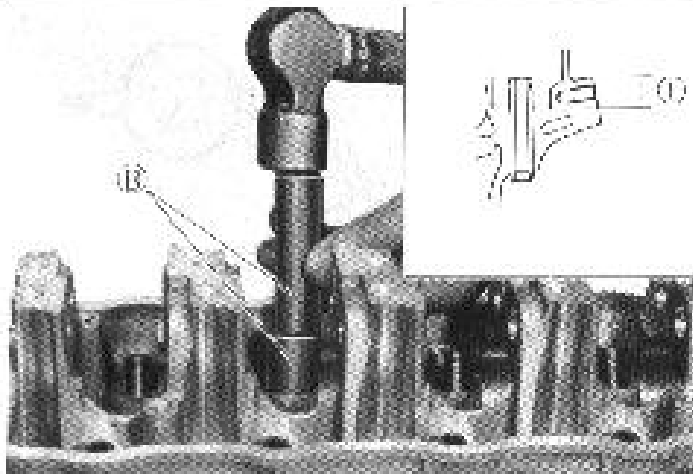

Fig. 3-60
- 2) Heat the cylinder head uniformly to any where between 80°C and 100°C (176°F-212°F) so that the head will not distort, and drive the oversize guide into the hole with the valve guide installer set ㉒ (09916-57310 and 09916-57320). See Fig. 3-60. Be sure to carry out this step speedily so that all guides will go into the cylinder head in steady temperature state.